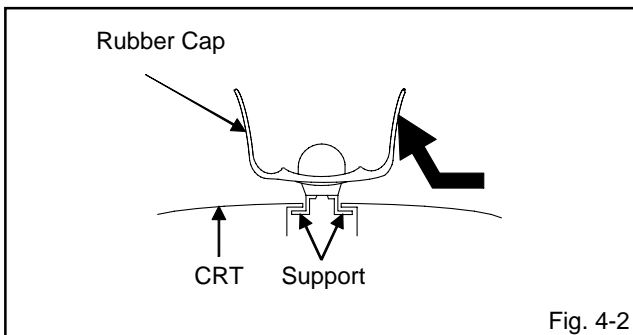

Fig. 4-2
2. Flip up the sides of the Rubber Cap in the direction of the arrow and remove one side of the support. **(Refer to Fig. 4-2.)**